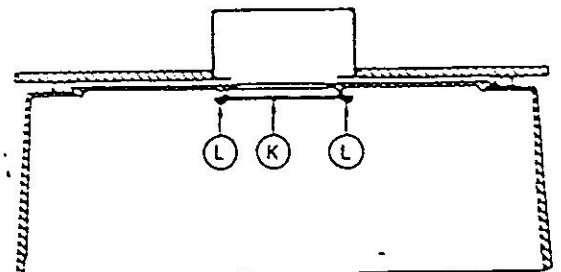

FIGURE 3
4. Route wires thru opening in collar and place wiring cover (K) over wire entry, then tighten the (2) screws (L). See Figure 3.
7. Place wiring cover (K) over wire entry and tighten the (2) screws (L). See Figure 3.